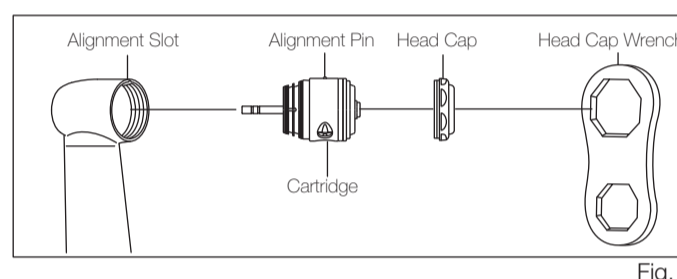

Fig. 7
- 6) Mount the Head Cap. (Fig. 7)